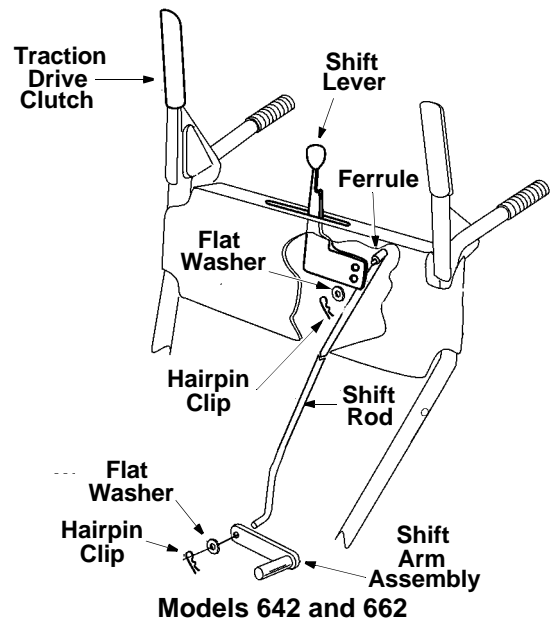

Figure 11
2. **Models 642, 662:** Rotate the shift arm assembly counter clockwise, as far as it will go. Insert the shift rod through the shift arm assembly. When installed the shift arm assembly should point to the right. Secure with flat washer and hairpin clip. See Figure 11.
3. **Models 642, 662:** Thread the ferrule up or down the shift rod and align with the lower hole on the wider side of the shift lever assembly behind the handle panel. See Figure 11.